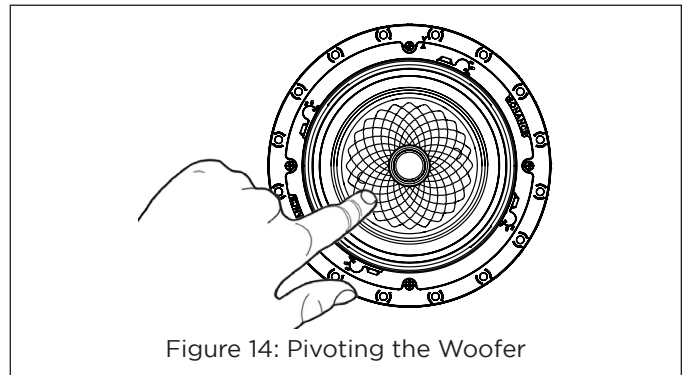

Figure 14: Pivoting the Woofer
14. Sonance VX SST models feature a pivoting woofer that can be adjusted. To adjust the woofer position, apply pressure on the outer third of the waveguide. Do not touch or apply pressure to the tweeter in the center of the speaker or the woofer cone that surrounds the waveguide. (See Figure 14)